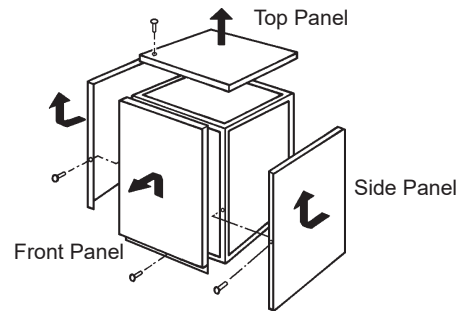

Fig. 2
- 3) Remove the front, top and side panels. See Fig. 2.